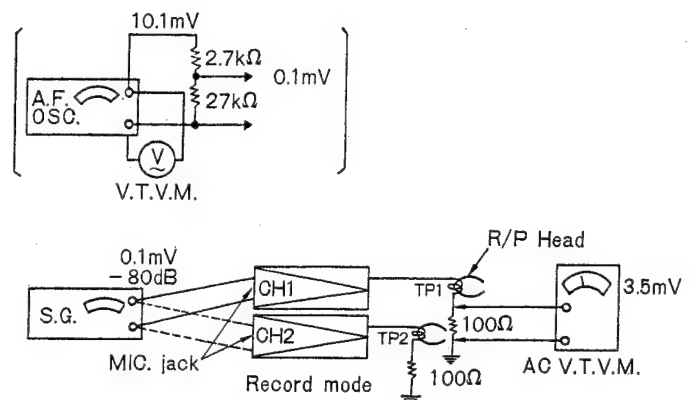
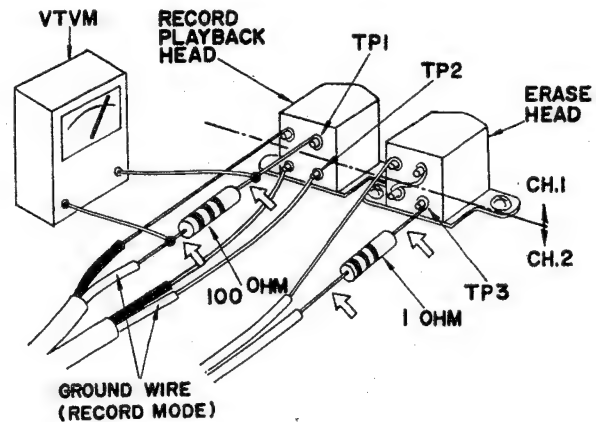
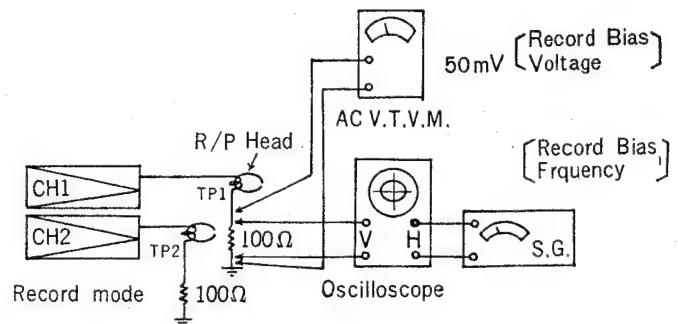
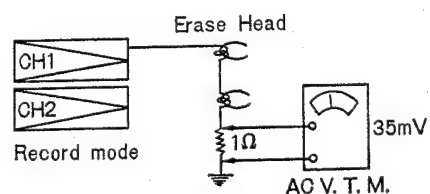

Figure 17
Figure 18
Figure 19
Figure 20
2. RECORD AMPLIFIER SENSITIVITY (Refer to Figure 17 and Schematic Diagram)
Refer to Figure 17 and Figure 18
3. RECORD BIAS VOLTAGE (Refer to Figure 18 and Figure 19)
Refer to Fig. 18 and Fig. 19
4. RECORD BIAS FREQUENCY (Refer to Figure 19)
(Refer to Figure 19)
1. As shown in Fig. 19 insert a 100Ω Resistor to ground Lead Wire of Record/Playback Head. Connect vertical Axis of Oscilloscope across Resistor. Connect horizontal Axis of Oscilloscope to Output Terminal of Signal Generator.
2. When the recorder is set to "RECORD" mode, connected as above, Lissajou's Figure 19 will appear on the Oscilloscope. Refer to this Figure 19 to check frequency of Bias Oscillator. The standard Frequency is approximately 75~85KHz.
5. ERASE VOLTAGE (Refer to Figure 18 and 20)
Refer to Fig. 18 and Fig. 20